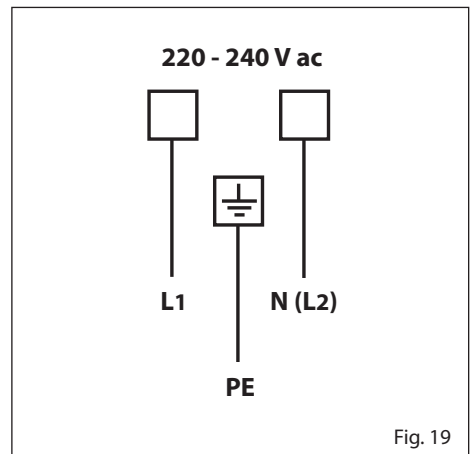

Fig. 19
- The new supply cable, of suitable type and section, is connected to the terminal board following the diagram of fig. 19